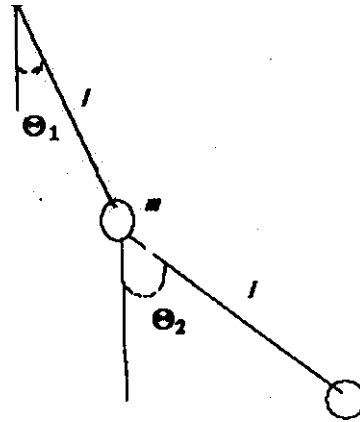

Fig. 6
3. Using Rayleigh's principle, determine approximately the two natural frequencies and the corresponding mode shapes for the double pendulum shown in Fig.6 . (12)